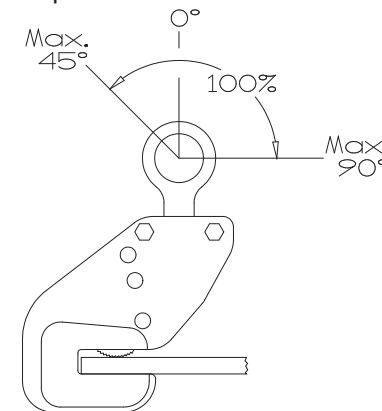

Figure 1
4. The Model HBC maintains a 100% rated lift capacity with a forward sling angle up to 90° and a back sling angle up to 45° (Fig. 1).
6. Never exceed a 90° frontward sling angle (Fig. 1).
7. Never exceed a 45° backward sling angle (Fig. 1).